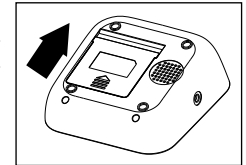

Figure 1
- Open the cover of the battery compartment on the underside of the device by sliding it in the direction indicated by the arrow (Figure 1).
- Close the battery compartment again by sliding the cover in the opposite direction to that indicated by the arrow until it clicks into place (Figure 1).